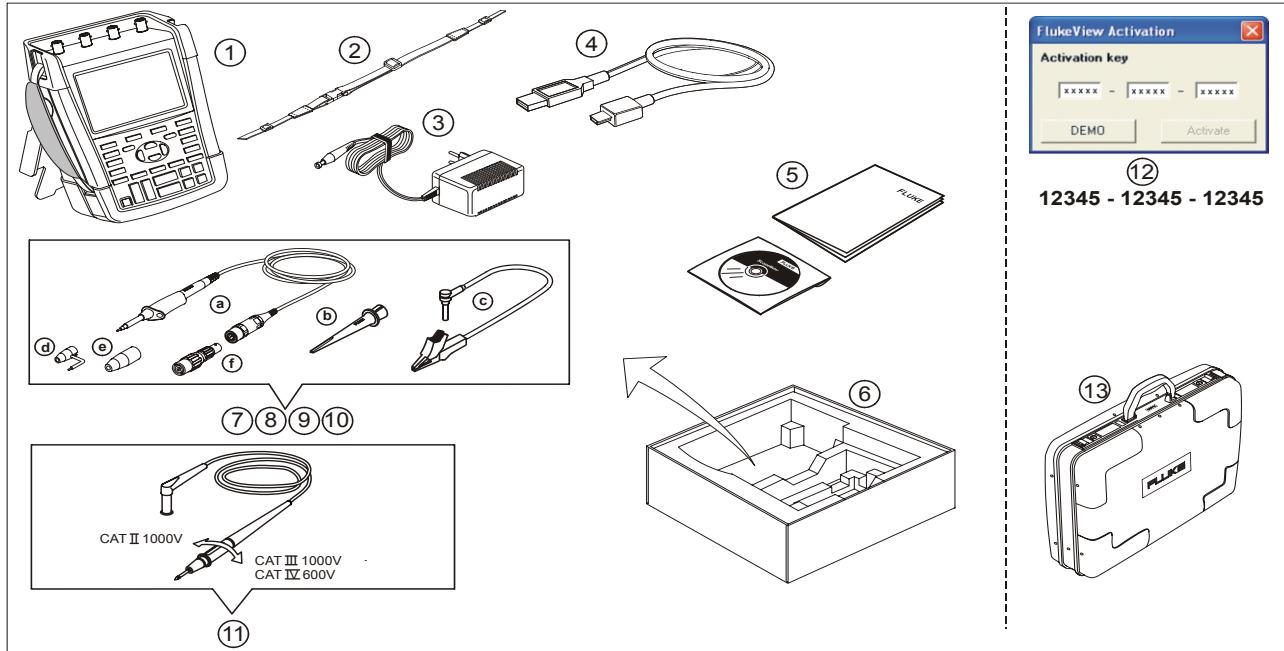

Figure 1. Test Tool Kit
- Do not connect the ground spring (figure 1, item d) to voltages higher than 42 V peak (30 Vrms) from earth ground.
- When using the ground reference lead with any of the probes, make sure that the black isolation sleeve (Figure 1, item. 10e) is over the probe tip.